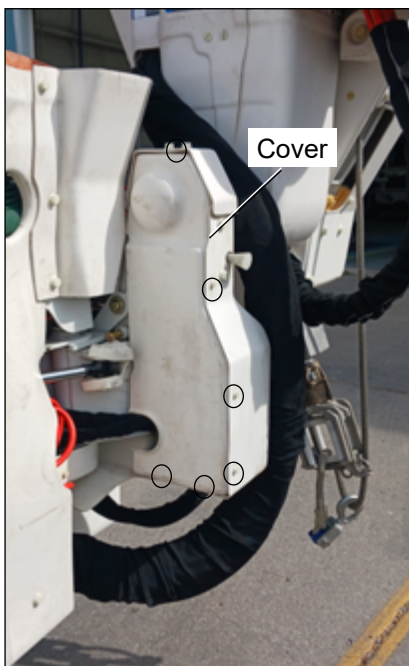

Figure 1 — Cover to Remove
6. Remove the platform pivot arm cover (refer to Figure 1). Keep the hardware and cover for re-installation.